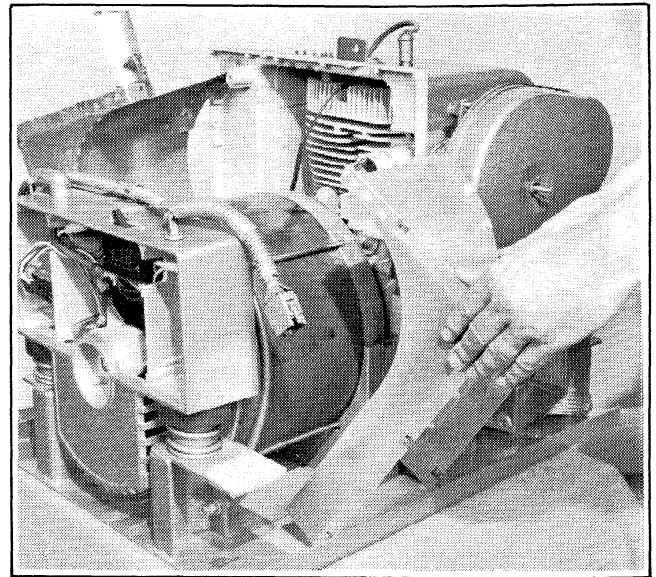

Figure 6-10. Inside Housing Removal
9. Remove the inside housings (Figure 6-10).